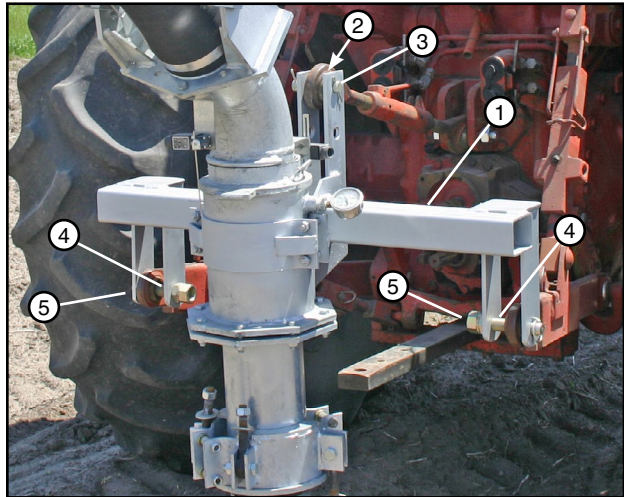

Figure 34-1 1. Tool Bar 2. Top Link Bushing 3. Top Link Pin 4. 2-3/4 in Bushing 5. Hitch Pin
14. When attaching the tractor's three point hitch to the tool bar on the small field pivot, do the following and make sure all three pins and bushings that secure tool bar to the three point hitch are properly engaged and secured before lifting pivot. See figure 34-1.